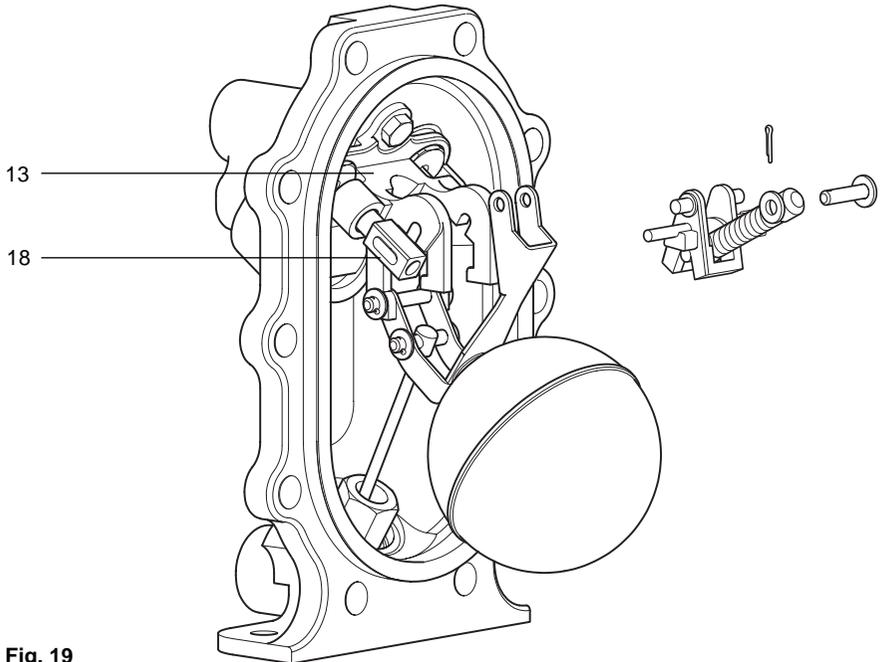

Fig. 19
**Note:** There is no need to remove the spring from the actuator arm, as both these items are supplied fully assembled in the spares kit (See Fig. 19).
10. **Fitting the new spring and actuator arm is the opposite to removal.** Remember to compress the small spring within the exhaust valve (item 18) before refitting to the tanged spigot of the new actuator arm.
11. Ensure the actuator is correctly aligned and located within the slots of the pump bracket (item 13).
13. Always use new split pins and washers when refitting the spring retaining shaft (Y).
16. Carefully reconnect the motive steam supply and the exhaust lines to the connections marked (S) and (E) and the condensate inlet and outlet to the connections marked (IN) and (OUT). The APT10-2 is now ready to recommission.